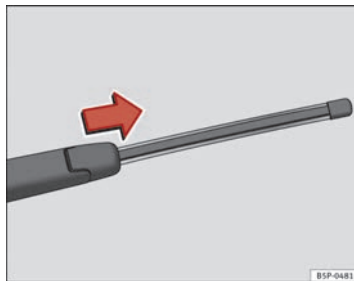

Fig. 130 Removing the rear window wiper blade
- Lift the wiper arm away from the glass → fig. 130.
- Slide the blade adapter in the direction of the arrow and remove the blade → fig. 130.